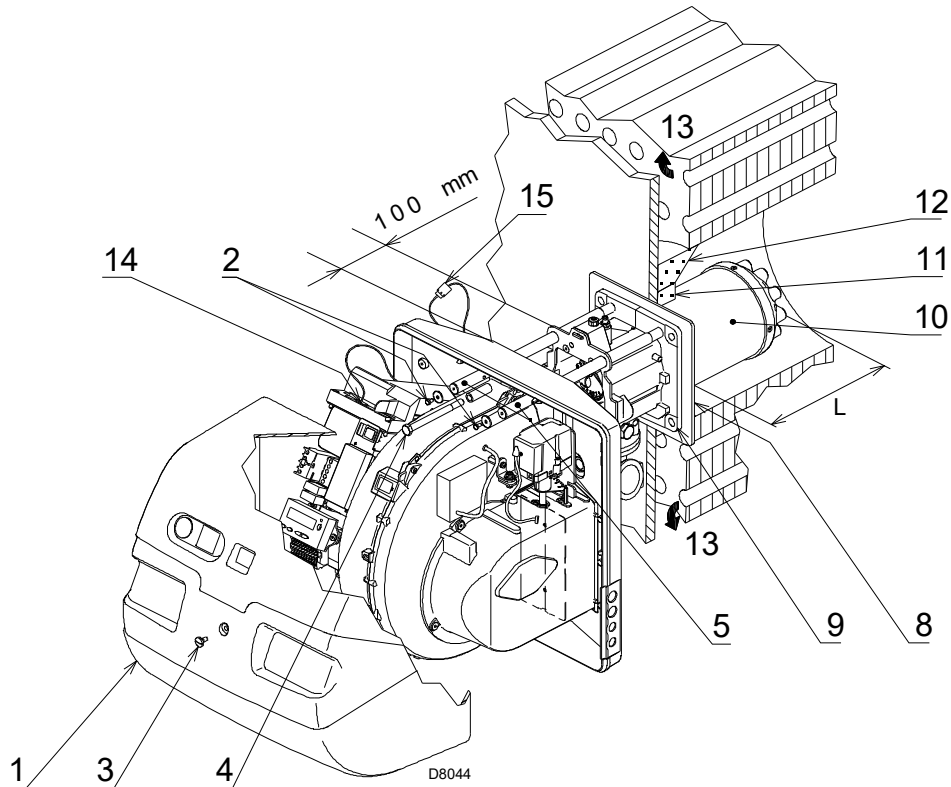

Fig. 17
For boilers with front flue passes 13)(Fig. 17), a protection in refractory material 11) must be inserted between the boiler refractory 12) and the blast tube 10).
Separate the combustion head from the rest of the burner, as in Fig. 17; proceed as follows:
- reassemble the burner on the guides 3) at about 100 mm from the pipe coupling 4) - burner in the position shown in Fig. 17;
- connect the plug of the servomotor 14)(Fig. 17 at page 23) and tighten the grommet 15);